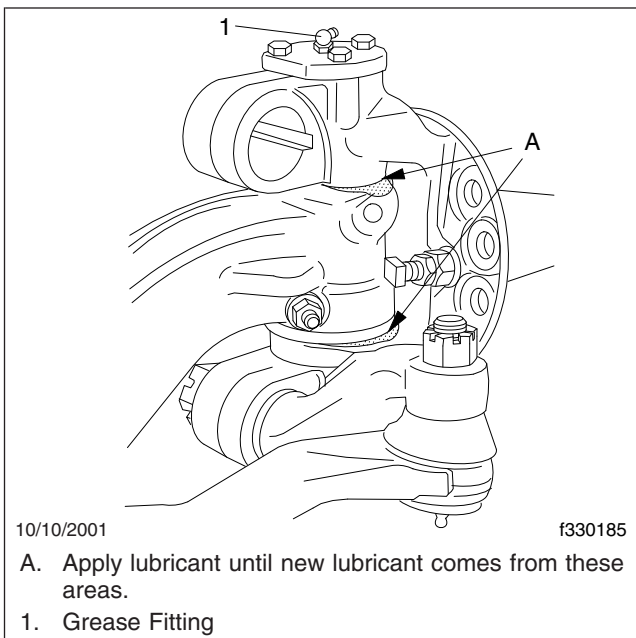

Fig. 3, Sealed, Easy Steer Kingpin Lubrication
4. Using a multipurpose grease, NLGI grade 1 or 2, lubricate the kingpins through the grease fittings on the top and bottom of the knuckle. See Fig. 3.